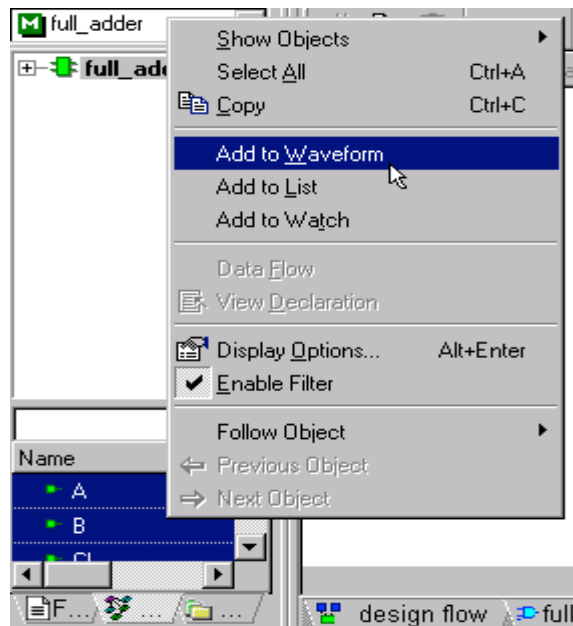

Figure 33
7. Add the signals to the waveform by dragging the signals one by one into the left side of the waveform. A faster method of adding signals to the waveform is to select the signals using the Shift or Ctrl keys. Now you may drag them as described above into the waveform. You can also right-click on a selected signal, and click the Add to waveform option in the pop-up menu as shown in Figure 33.